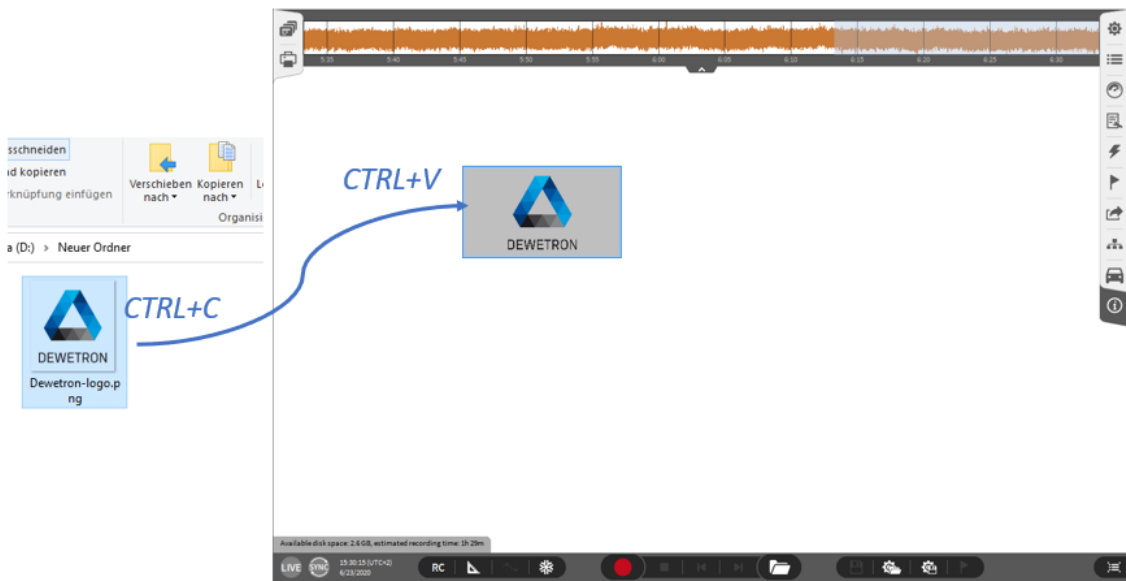

Fig. 8.31: Pasting an image file to the measurement screen
**Note:** An image file (.jpeg or .png) can also be copied and pasted directly from the Windows Explorer into the OXYGEN measurement screen (see Fig. 8.31).